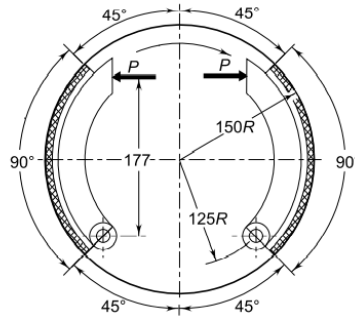

Fig.4.
- 5) An automotive-type internal-expanding brake is shown in Fig. 4. The face width of the friction lining is 50 mm and the coefficient of friction is 0.4. The maximum intensity of pressure on the lining is 0.8 N/mm². The angle θ_1 can be assumed to be zero. Calculate: